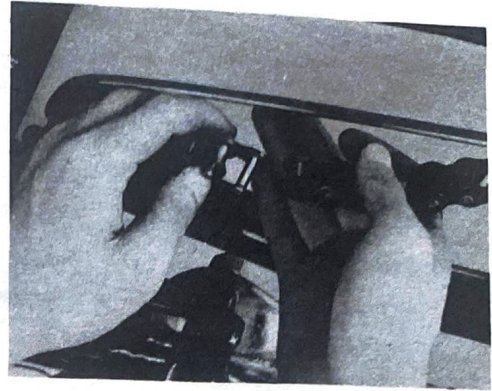

Fig. 5-4-1
- 1) Disconnect the chain joint and remove the chain. (Fig. 5-4-1)